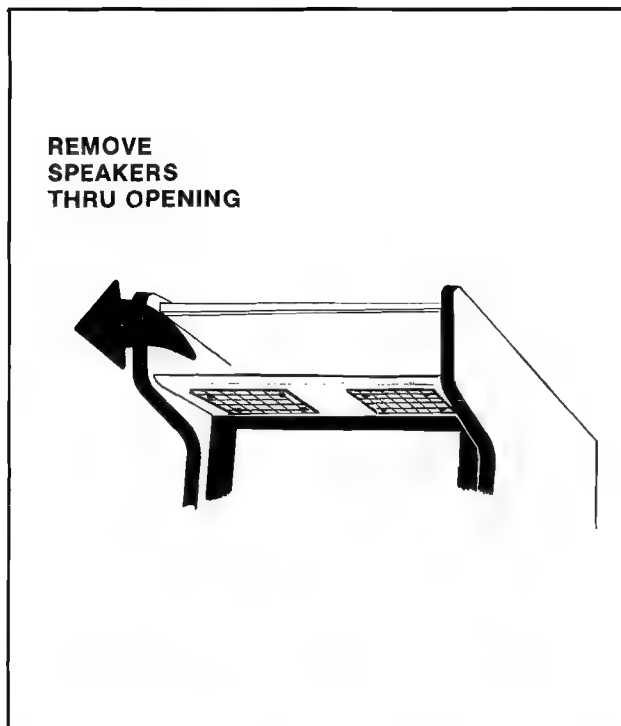

Figure 29 Replacing speaker — Upright game
- Replacing the speaker. See Figure 29.